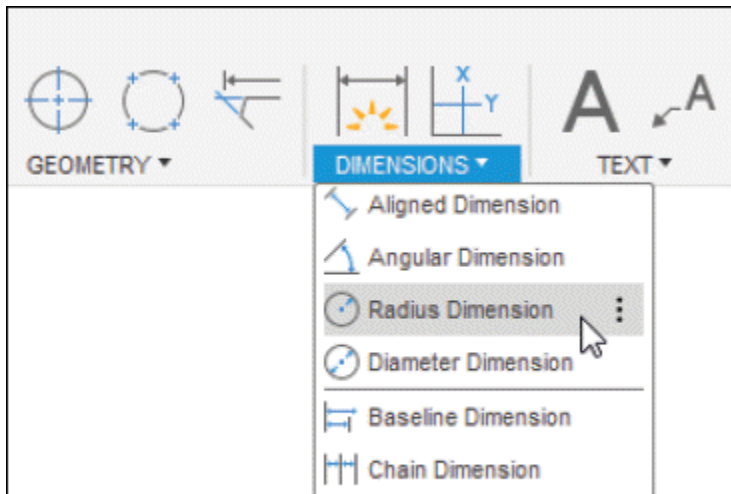

Figure-60. Radius Dimension tool
- Click on the **Radius Dimension** tool in **DIMENSIONS** panel of **Toolbar**; refer to Figure-60. You will be asked to select circular edge or circle in the drawing.